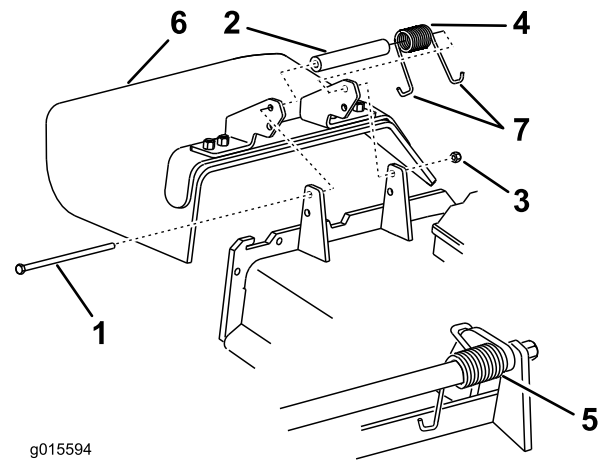

Figure 122
1. Remove the locknut, bolt, spring, and spacer holding the deflector to the pivot brackets (Figure 122).
2. Remove the damaged or worn grass deflector (Figure 122).
**Note:** Make sure that 1 J-hook end of the spring is installed behind the deck edge before installing the bolt as shown in Figure 122.
6. Place 1 J-hook end of the spring around the grass deflector (Figure 122).